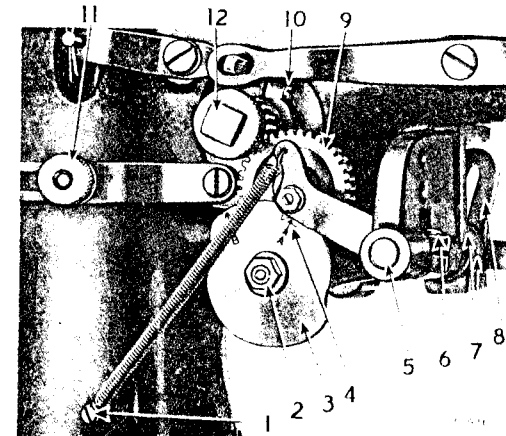

Fig. 18. Adjustment of Cam and Gears
To time the motion of the needle bar frame, turn the balance wheel until the arrow A on needle vibrator cam (3, Fig. 18) is directly under the "V" slot (4, Fig. 18). In this position, it should be possible to move the stud up and down in the elongated slot of the segment lever (8, Fig. 18) without causing sidewise motion of the needles. If there is sidewise motion, loosen the clamping screw (6, Fig. 18) and move the top of the segment lever (8) to the right or left as required, to eliminate the sidewise motion. Tighten screw (6) making sure that there is no end play in the rock shaft (5, Fig. 18) and that the rock shaft turns freely.
To time the needle vibrator cam (3, Fig. 18) turn the balance wheel until the needles are at the lowest point. Loosen the knurled screw (12, Fig. 18) (the squared portion of this screw makes possible the use of a wrench to accomplish this). Turn the cam (3) while holding the balance wheel until the arrow B is directly under the "V" slot 4, then tighten screw (12).
To change needle vibrator cam or driving gear, unhook the spring from stud (1, Fig. 18) and lift cam follower lever clear of cam, making sure that the needles are clear of the needle slot in the presser foot. Remove nut (2, Fig. 18) and remove the needle vibrator cam and the driving gear. Loosen nut (11, Fig. 18) and screw (10, Fig. 18) and swing gear (9, Fig. 18) out of engagement. When replacing the driving gear, have the slot in the hub entered by the driving pin on the shaft, replace the thick washer, the cam and the thin washer in the order named, then replace and securely tighten the nut (2). Attach the spring to the stud (1), re-engage the idler gear, locking it in position with screw (10) and nut (11). Retime the needle vibrator cam before starting the machine.